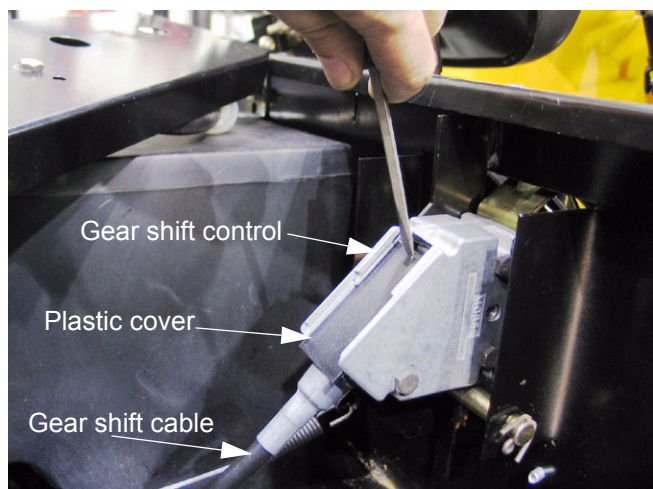

Figure 4.5
- 4.5. There is a black plastic cover on the gearshift control. Slide it rearward, then lift it away from the gear shift control to expose the cable attachment. See Figure 4.5.